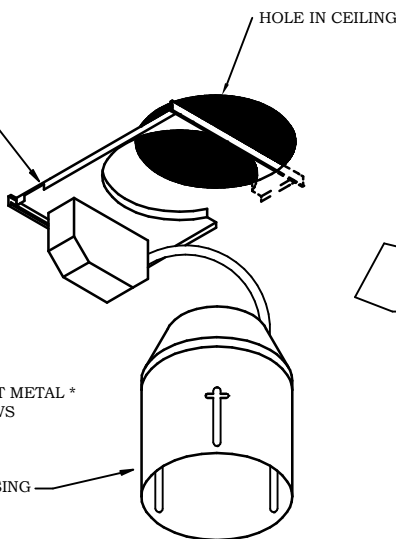

FIGURE 5
- 4.- TURN PLASTER FRAME ON ITS SIDE AND INSERT ONE LEG INTO HOLE IN CEILING. WHILE SLIGHTLY FLEXING OTHER LEG OF FRAME, CONTINUE INSERTING FRAME UNTIL JUNCTION BOX CLEARS HOLE IN CEILING (SEE FIGURE 5).